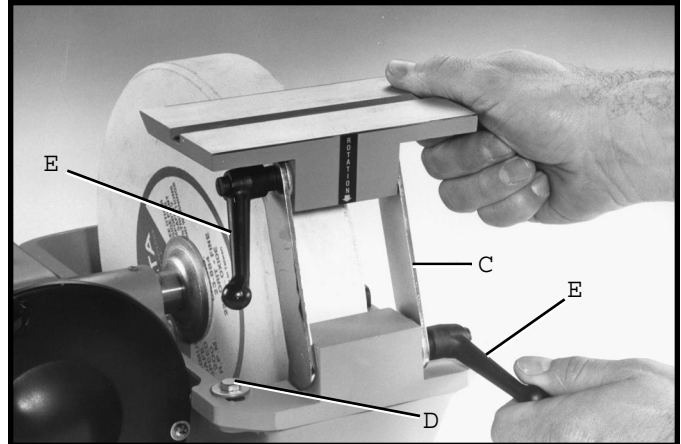
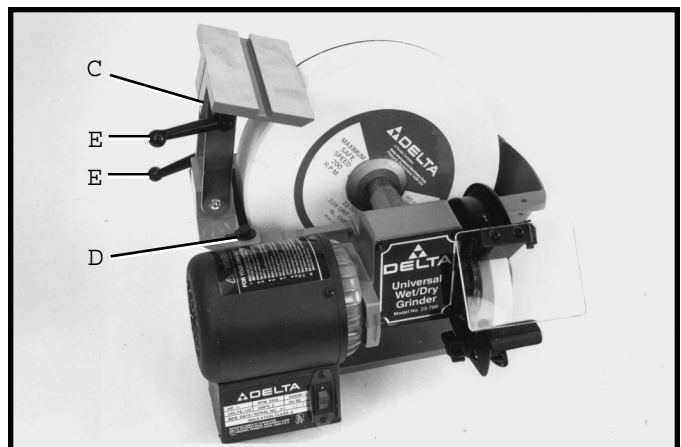

Fig. 7
Fig. 8
3. The tool rest for the 10 grinding wheel can be assembled to the right hand side of the machine as shown in Fig. 7, or can be assembled to the left hand side of the machine as shown in Fig. 8. Assemble the tool rest (C) Figs. 7 and 8 to the machine as desired, using two 1 long hex head screws and flat washers (D), one of which is shown. NOTE: When assembling the tool rest on the left side of the machine, the grinding action will be on the upward swing. The tool rest (C) Figs. 7 and 8, is adjustable so it can be positioned close to the grinding wheel and at any angle to the wheel by loosening two locking handles (E), adjusting the tool rest (C), and tightening the two locking handles (E). The locking handles (E) are spring-loaded and can be repositioned by pulling outward on each handle and repositioning it on the serrated nut located underneath the handle.